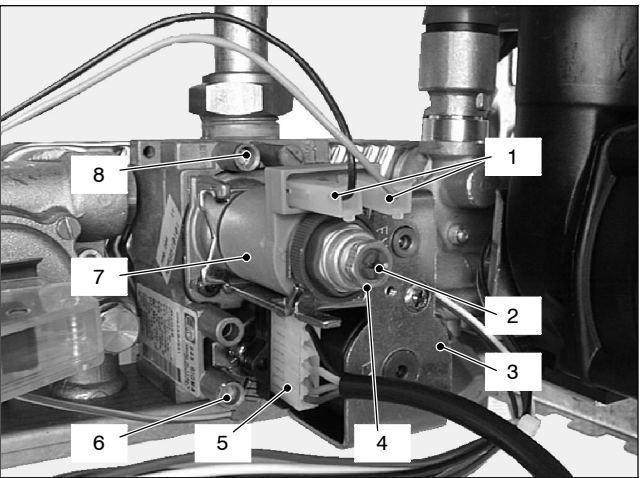

Fig. 46
12.2 Nomenclature of the parts (Fig. 46)
- 2 Open the gas valve inlet pressure test point (6 in Fig. 46) at the valve input, connect a suitable pressure gauge and check the gas pressure of the supply network.
- 4 Open the gas valve outlet pressure test point (8 in Fig. 46) and connect the gauge;
- 7 Rotate the maximum gas pressure adjustment (4 in Fig. 46) until you obtain the required pressure (by rotating clockwise the pressure increases).
- 8 Disconnect one of the two connectors (1 in Fig. 46) or, alternatively, remove the service panel as explained in the section 2.3 of this manual and set the dip–switch selector 1 (see section 10.5) to the OFF position.
- 9 Rotate the minimum gas pressure adjustment (2 in Fig. 46) until you obtain the required pressure (by rotating clockwise the pressure increases).